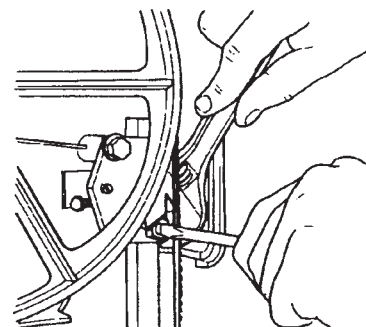

Fig. A-11
- Each adjustment of the post will change the tension on the upper blade guide's height lock. To adjust the lock tension, follow the procedure described in "Adjusting the Upper Blade Guide's Height Lock" in this section. Once you've completed these adjustments to your satisfaction, hold the screw from turning with a screwdriver and tighten the jam nuts. See Fig. A-11.